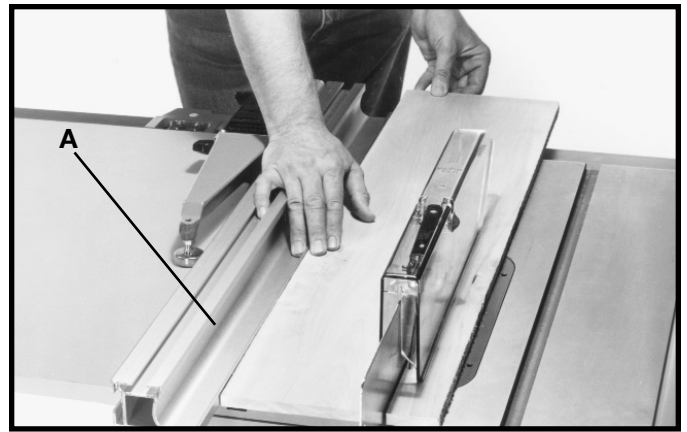

Fig. 55
Ripping is cutting lengthwise through a board, (Fig. 55). **NOTE:** Be sure the material to be cut is seasoned, dry and flat. The rip fence (A) is used to position and guide the work. One edge of the work rides against the rip fence while the flat side of the board rests on the table. Since the work is pushed along the fence, it must have a straight edge and make solid contact with the table.
1. Start the motor and advance the work holding it down and against the fence. **Never** stand in the line of the saw cut when ripping. When the rip width is 6 inches or wider, hold the work with both hands and push it along the fence and into the saw blade (Fig. 55). The work should then be fed through the saw blade with the right hand. Only use the left hand to guide the workpiece. Do not feed the workpiece with the left hand. After the work is beyond the saw blade and anti-kickback fingers, remove hands from the work.